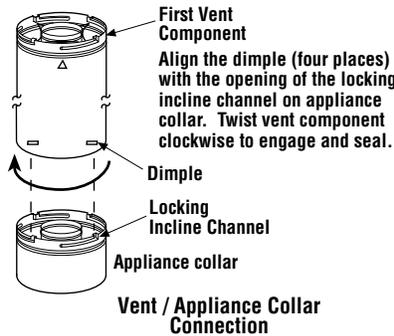

Figure 17
To attach a vent component to the appliance collar, align the dimpled end over the collar, adjusting the radial alignment until the four locking dimples are aligned with the inlet of the four inclined channels on the collar (refer to **Figure 17**). Push the vent component against the collar until it fully engages, then twist the component clockwise, running the dimples down and along the incline channels until they seat at the end of the channels. The unitized design of the **Secure Vent** components will engage and seal both the inner and outer pipe without the need for sealant or screws. If desired, a #6 x 1/2" screw may be used at the joint, but is not required as the pipe will securely lock when twisted.
Secure Vent SV4.5 direct vent system components are unitized concentric pipe components featuring positive twist lock connection, (refer to **Figure 17 on page 11**). All of the appliances covered in this document are fitted with collars having locking inclined channels. The dimpled end of the vent components fit over the appliance collar to create the positive twist lock connection.
D. Attach vent components to appliance - To attach a vent component to the appliance collar, align the dimpled end over the collar, adjusting the radial alignment until the four locking dimples are aligned with the inlets of the four incline channels on the collar (refer to **Figure 17 on page 11**).